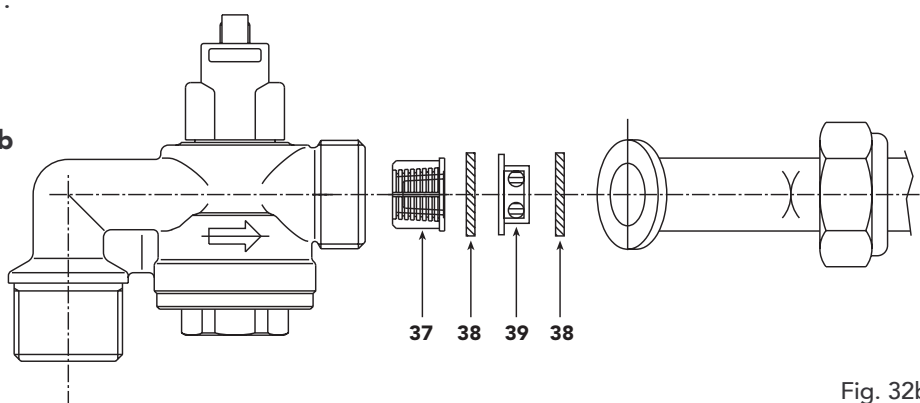

Fig. 32b
**Take care on correct position of components as reported in fig. 32b**